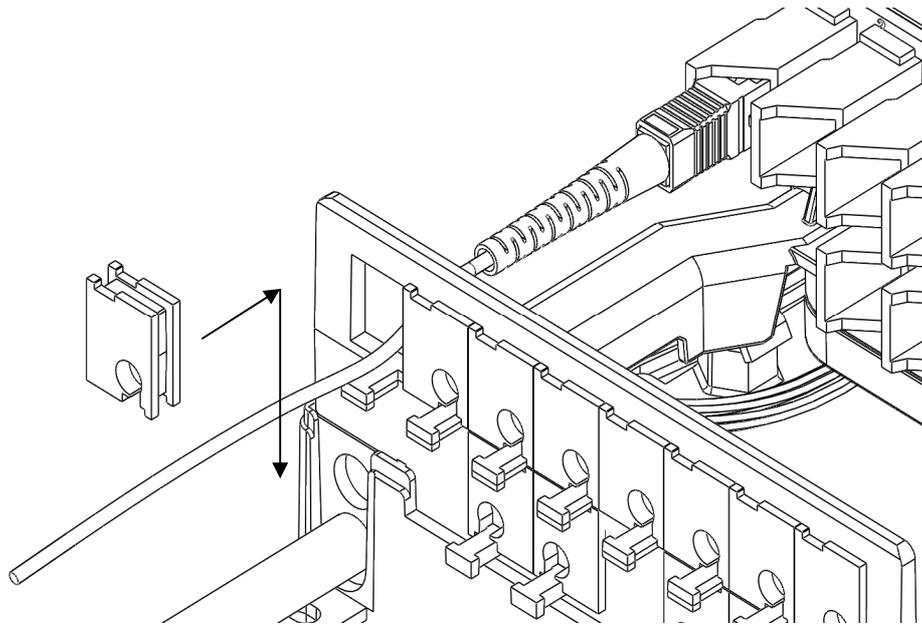
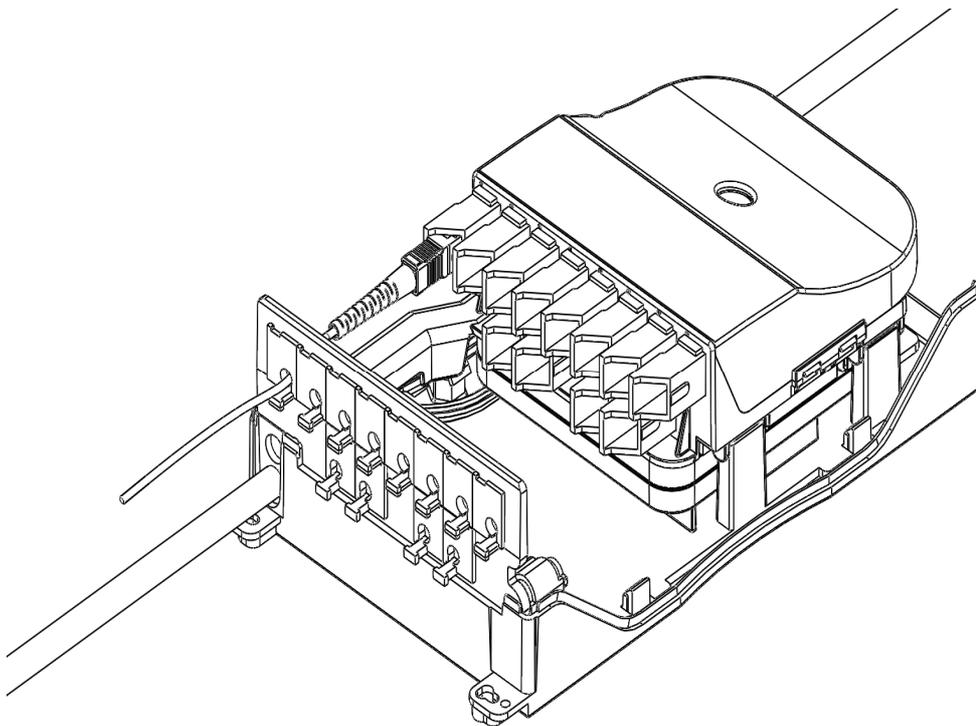

Fig. 30
Fig. 31
4.6.6. Re-install the grommet (Fig. 30) followed by the installation of the face plate (Fig. 31);